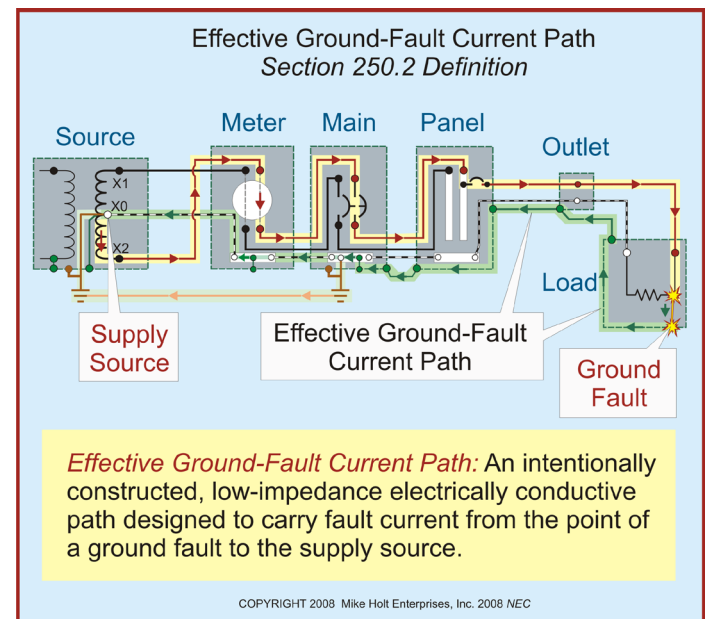

Figure 250-2
**Effective Ground-Fault Current Path.** An intentionally constructed low-impedance conductive path designed to carry fault current from the point of a ground fault on a wiring system to the electrical supply source. **Figure 250-2**